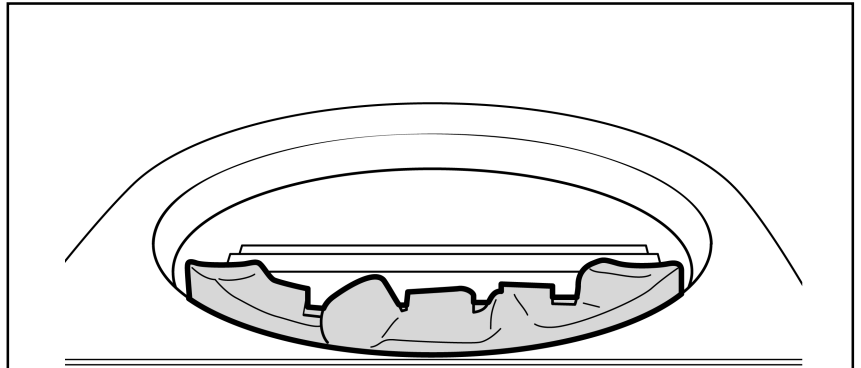

Figure 5 Front base pebble location
1. The front base pebble has a letter 'MF' on the underside. Locate the front base pebble in front of the burner (See figure 5)